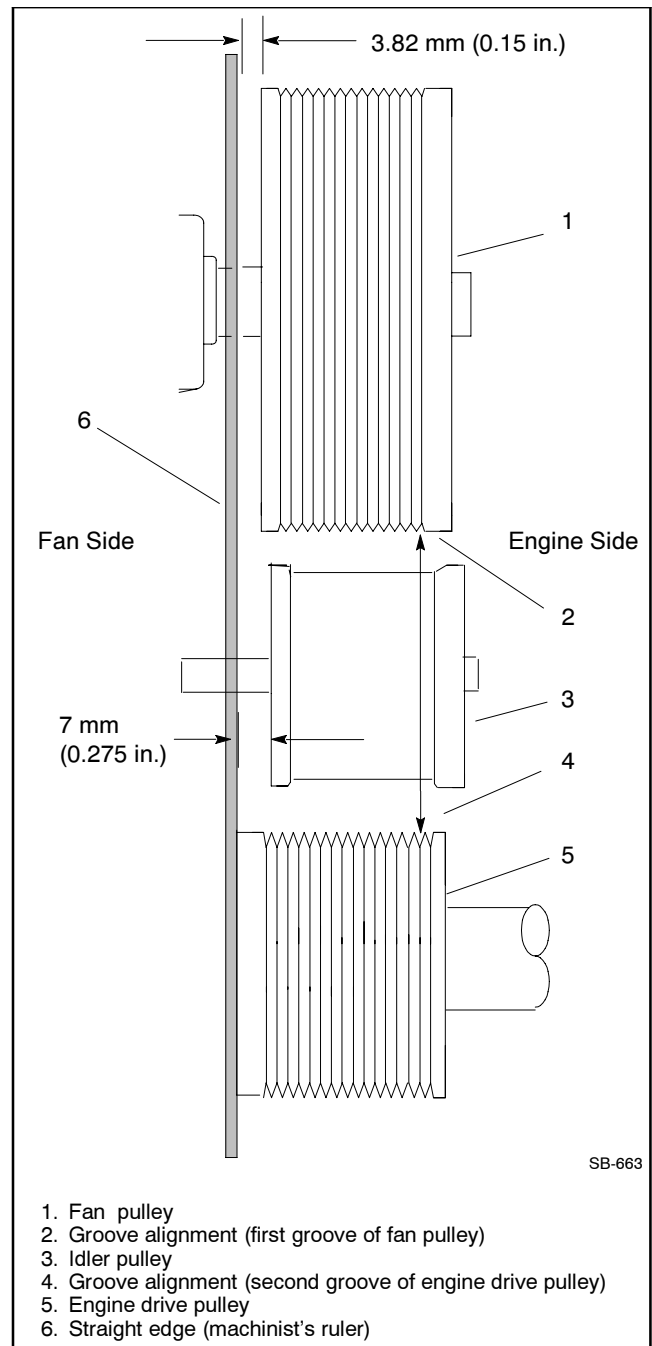

Figure 5 Pulley Alignment, Side View
- 3.1 Check the alignment of the fan pulley with the engine drive pulley by placing a straight edge (machinist's ruler) on the engine drive pulley left side as viewed from the radiator end. The second groove of the engine drive pulley must align with first groove of the fan pulley. See Figure 5 for the straight edge position and for clearance specifications.
4.3 Install the poly-V belt. Align the poly-V belt with the second groove on the engine drive pulley and the first groove on the fan pulley from the fan side. See Figure 5.